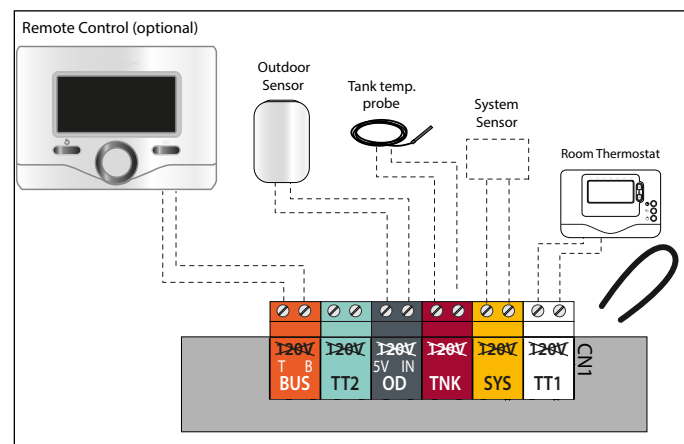

Figure 52 - Low Voltage Wiring Connections
3. Connect the room thermostat wires to the terminals indicated in Table 18 and Figure 52.